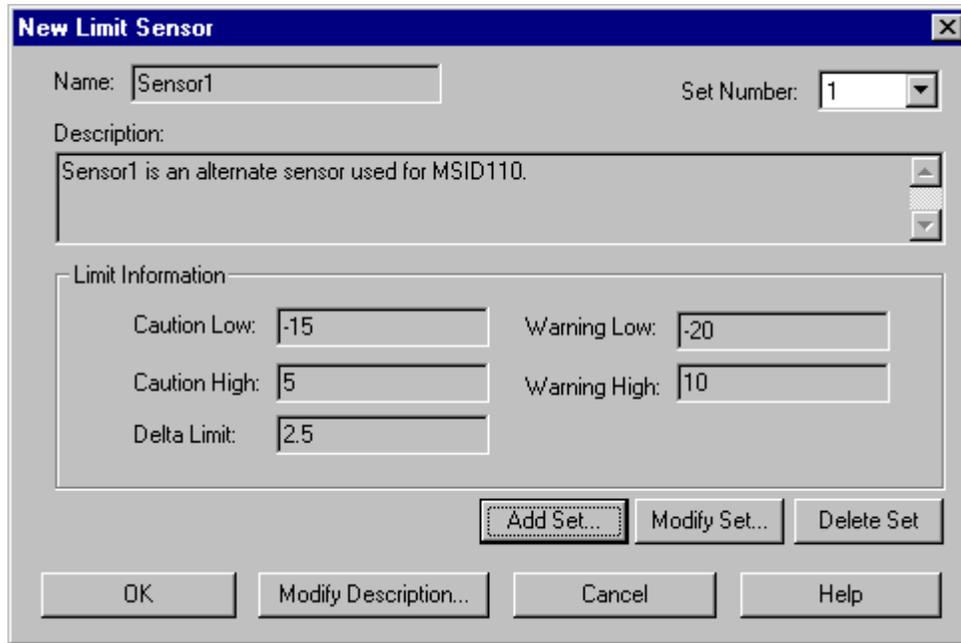

Figure 23 Limit Sensor dialog for Sensor1
11. The New Limit Sensor dialog for Sensor1 should now look like the picture shown in Figure 23.